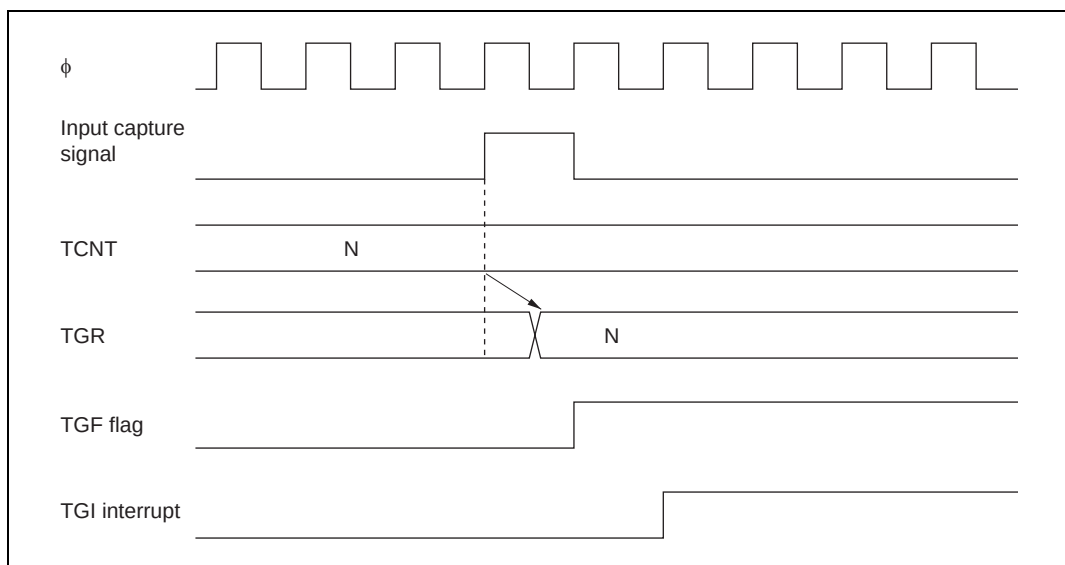

**Figure 9.43 TGI Interrupt Timing (Input Capture)**
**TGF Flag Setting Timing in Case of Input Capture:** Figure 9.43 shows the timing for setting of the TGF flag in TSR by input capture occurrence, and TGI interrupt request signal timing.